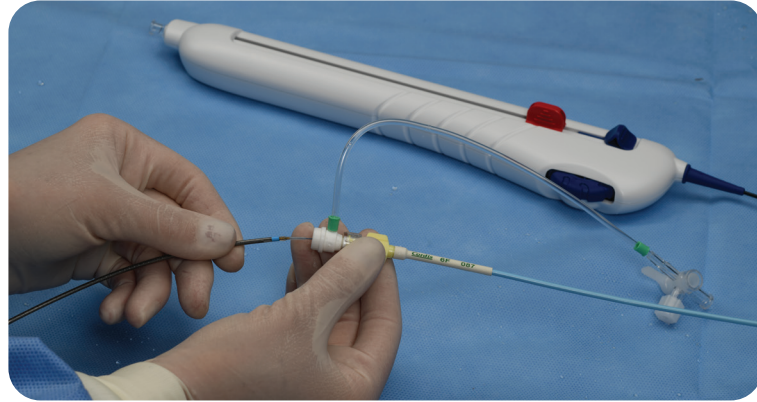

Figure 13
- B. Advance the device over the guidewire through the hemostatic valve and guiding sheath to the lesion site. (Figure 13)